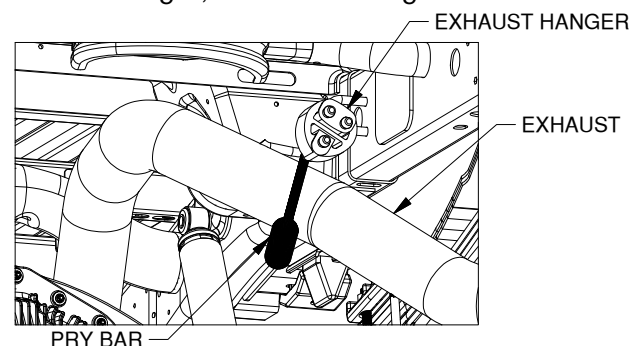

Figure A4: Looking under truck bed towards cab
7. **Disconnect the exhaust hanger:** Locate the exhaust hanger in the rear passenger portion of the truck, see Figure A4. Disconnect the exhaust from the hanger to provide improved mounting access to the center section. It is recommended that a pry bar be used to aid in disconnecting the exhaust hanger, as shown in Figure A4.